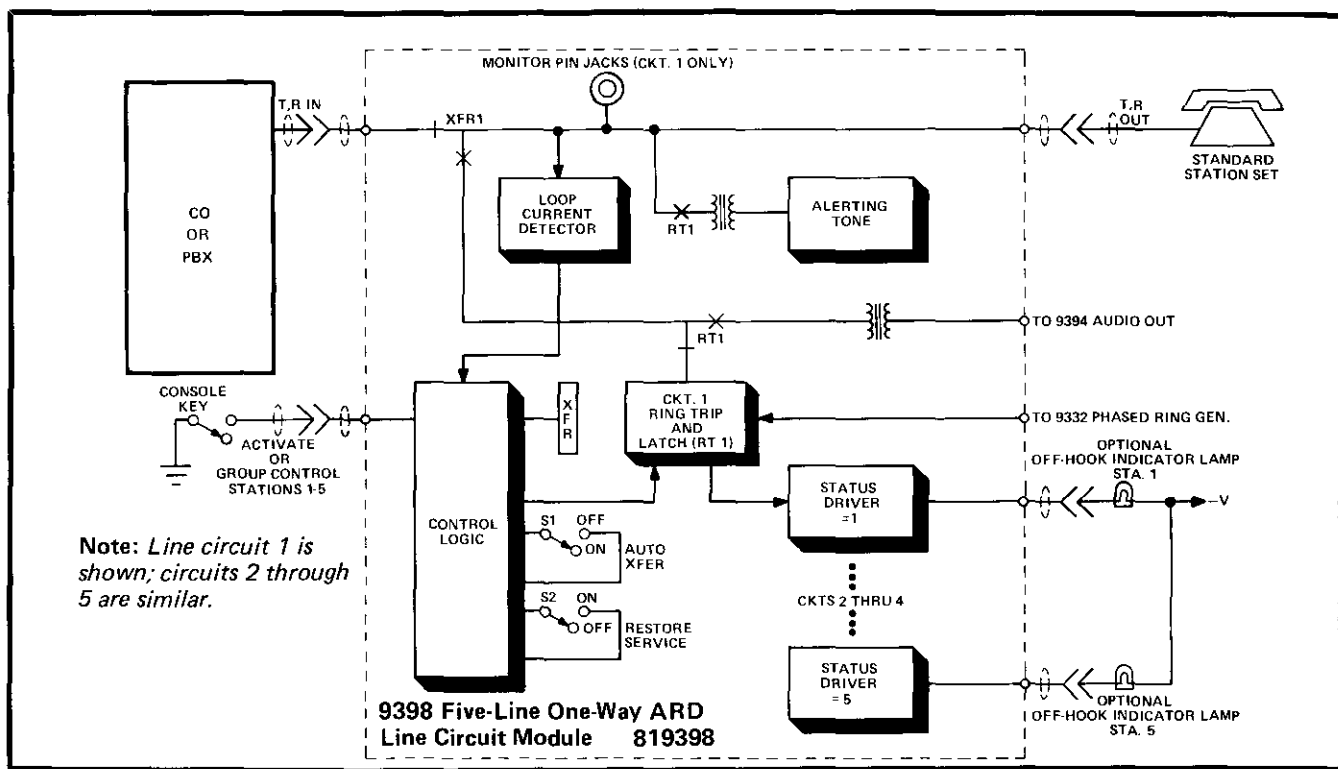

figure 6. 9398 Five-Line One-Way ARD Line Circuit Module (819398) block diagram
2.12 The 9398 Five-Line One-Way ARD Line Circuit Module (see figure 6) provides for the transfer of 5 stations between the serving CO (or PBX) and the 9398 Distribution Amplifier. The transfer of all 5 lines is initiated by applying ground to the driver circuit of the transfer relay (activate or group lead). The driver circuit keeps input current to a minimum and allows direct